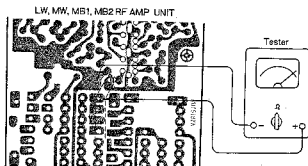

Fig. 23
2. Turn the gear of the switch ($S_{1-1} \sim S_{1-9}$) while measuring the conductance by tester, and attach the RF amp. unit after aligning the gear to the position which is half way between the limits at which there is conductance, as shown in fig. 23.